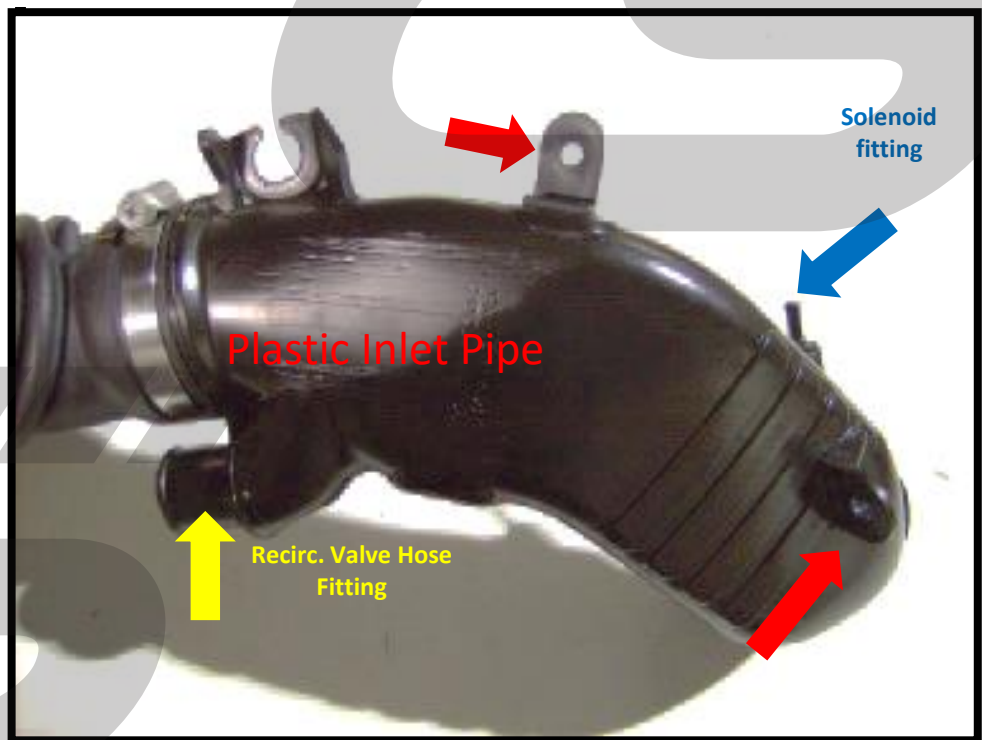

Figure 3b
- b) Remove the two wiring harness clips (red arrows in Figure 3b) located on the stock turbo inlet pipe.
- c) Using needle nose pliers, remove the hose from solenoid fitting on the stock turbo inlet pipe and the boost control solenoid (Shown in Figure 3b by blue arrow).